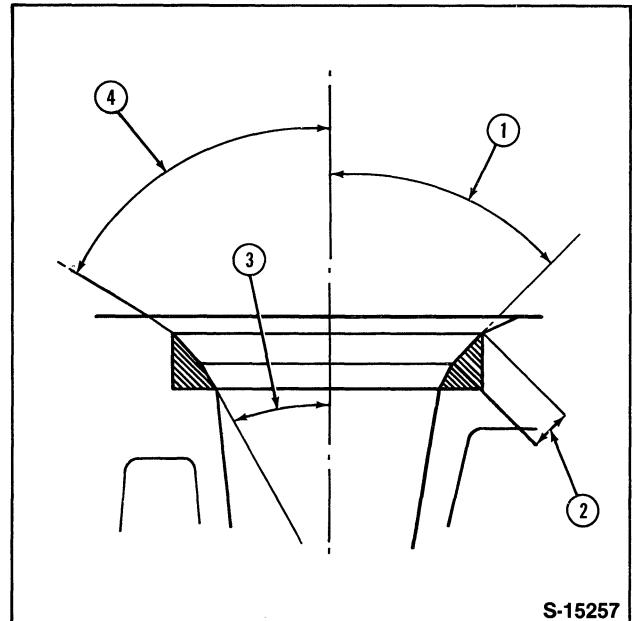

Figure 13
6. Check the width of the valve seat faces and, if necessary, reface by grinding to the dimensions shown in Figure 13.